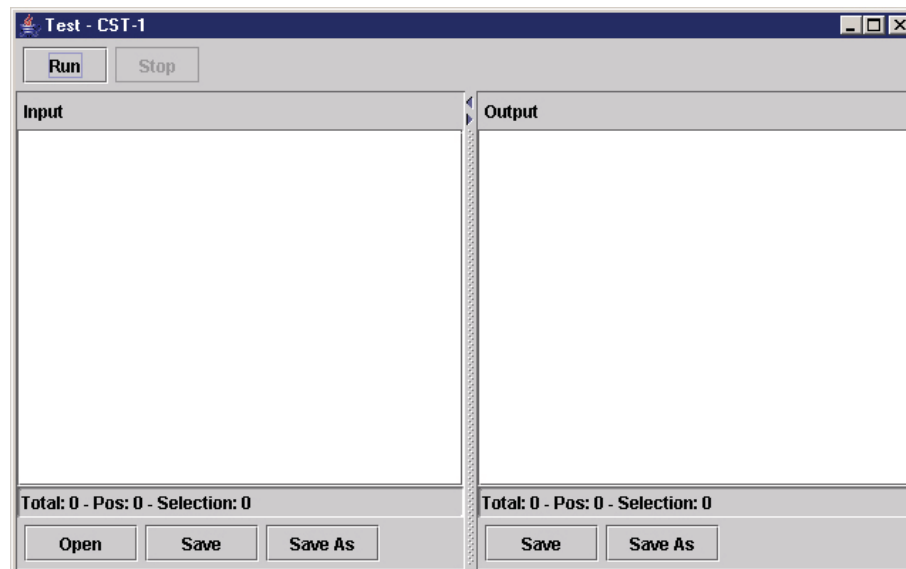

Figure 162 The Test Window
35. Select **Tools ► Test**. The Test window opens. See Figure 162.